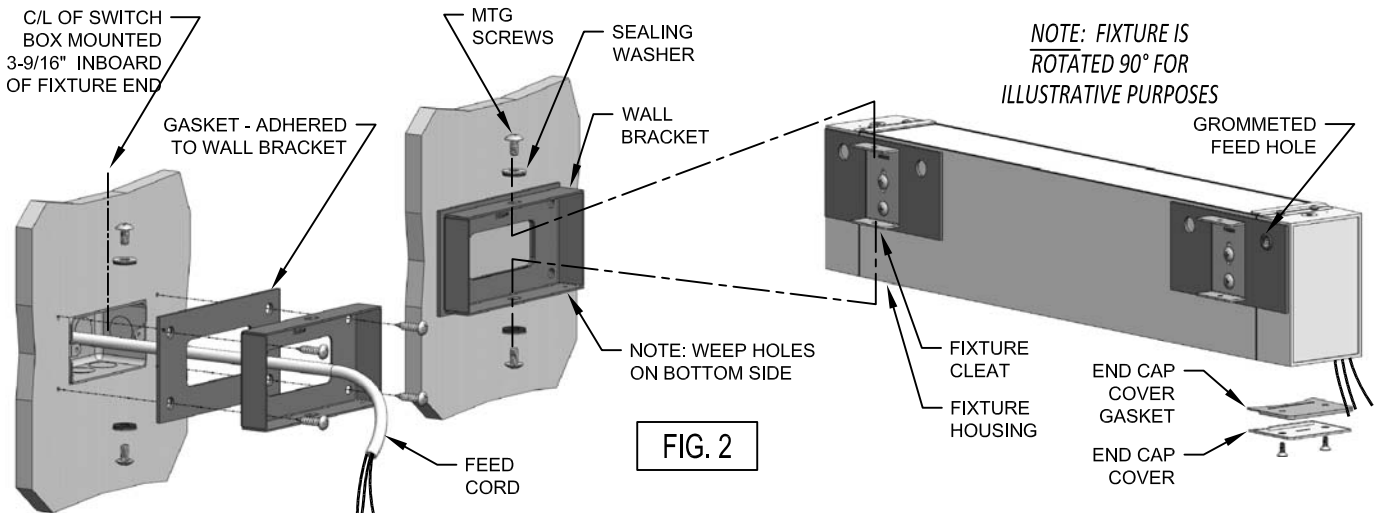

FIG. 2
STEP 3 ATTACH FEED CORD TO POWER SUPPLY WIRES WITHIN J-BOX AND ROUTE CORD THROUGH CENTER OF WALL BRACKET. (FIG 2)
STEP 5 REMOVE END CAP COVER PLATE AND GASKET FROM FEED END OF FIXTURE. RAISE FIXTURE TO WALL BRACKETS AND ROUTE FEED CORD THROUGH GROMMETED HOLE IN FIXTURE AND OUT BOTTOM OF FIXTURE END. ATTACH FIXTURE TO WALL BRACKETS ENSURING THAT FIXTURE CLEATS FIT WITHIN THE WALL BRACKETS AND SECURE WITH MOUNTING SCREWS PROVIDED — TOP AND BOTTOM. (FIG 2)